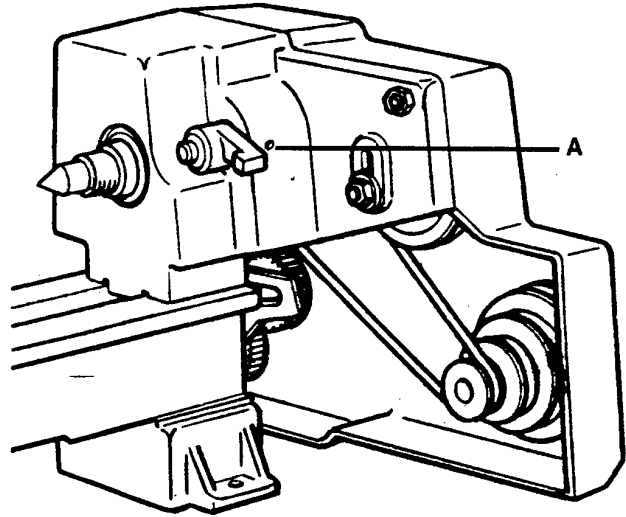

FIGURE 24
2. Loosen socket set screw (A figure 24).